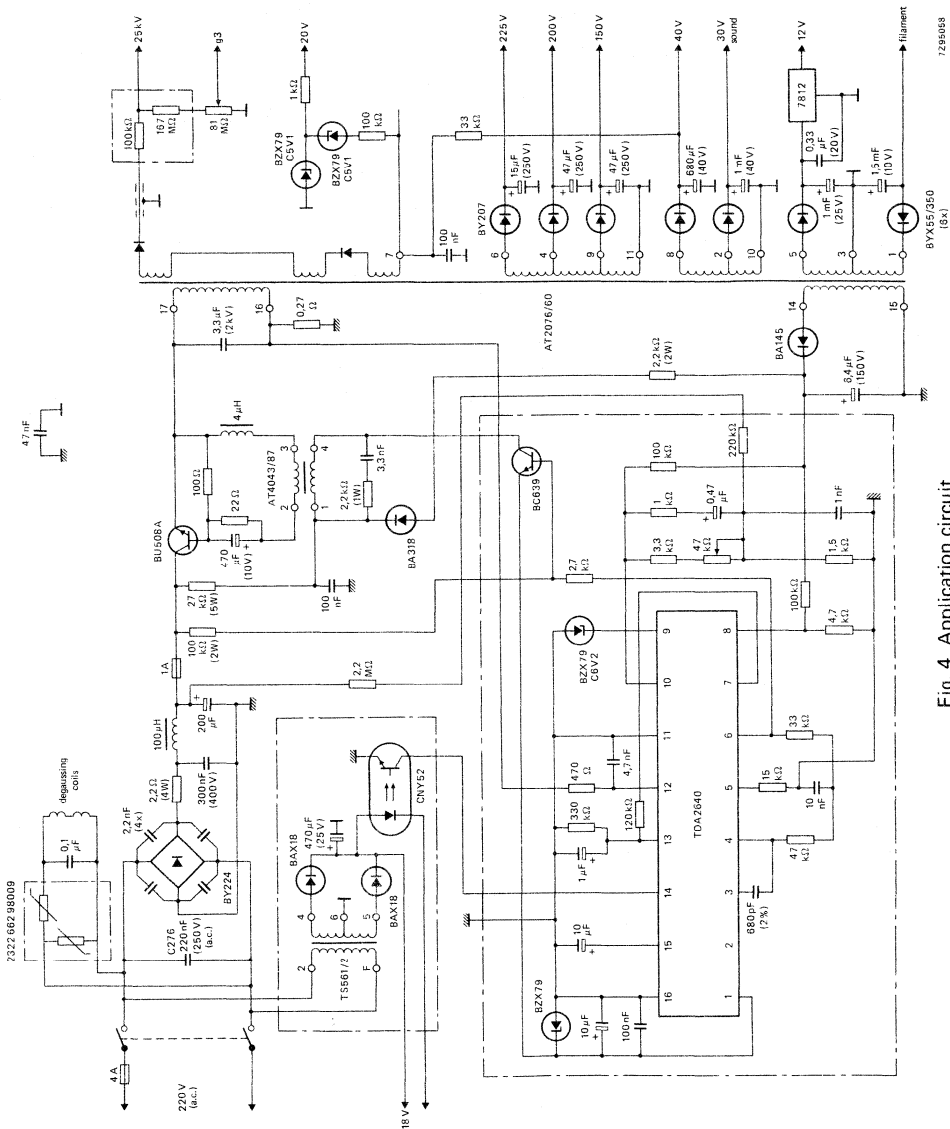

Fig. 4 Application circuit.
**ELECTRICAL DATA** (measured in circuit of Fig. 4, mains voltage 220 V)